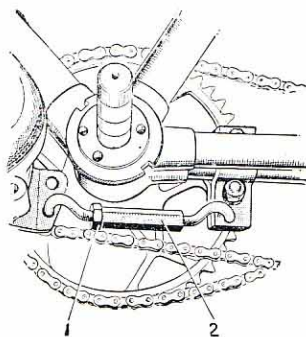

Fig. 10 Secondary Chain Adjuster
7. Remove split pin from front chain adjuster rod and free adjuster from engine bracket (Fig. 10, page 8A).